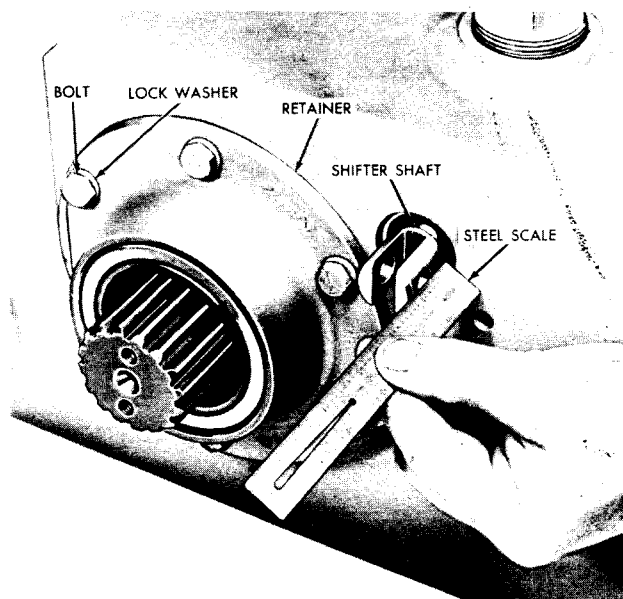

Fig. VII-9. Measuring adjustment of disconnect shaft S2443
(26) Install the six bolts and lock washers which secure the retainer (fig. VII-9).
(27) Push the shifter shaft all the way into the housing while rotating the output shaft. When the coupling engages the second detent, measure the distance from the housing to the center of the pin hole in the shaft. Adjust the shaft, by rotating it, until the measured distance is approximately $\frac{5}{8}$ inch (16 mm) (fig. VII-9).